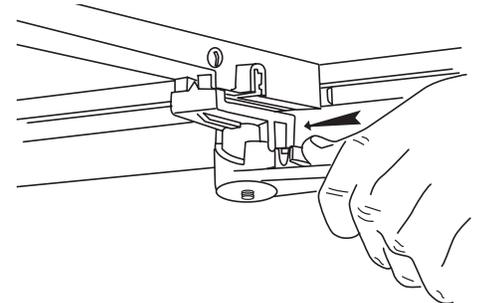

FIGURE 4
6. There are locking features on front clamps only. With the handle engaged (clamped position), push the locking tab on the handle to engage lock. See Figure 4.